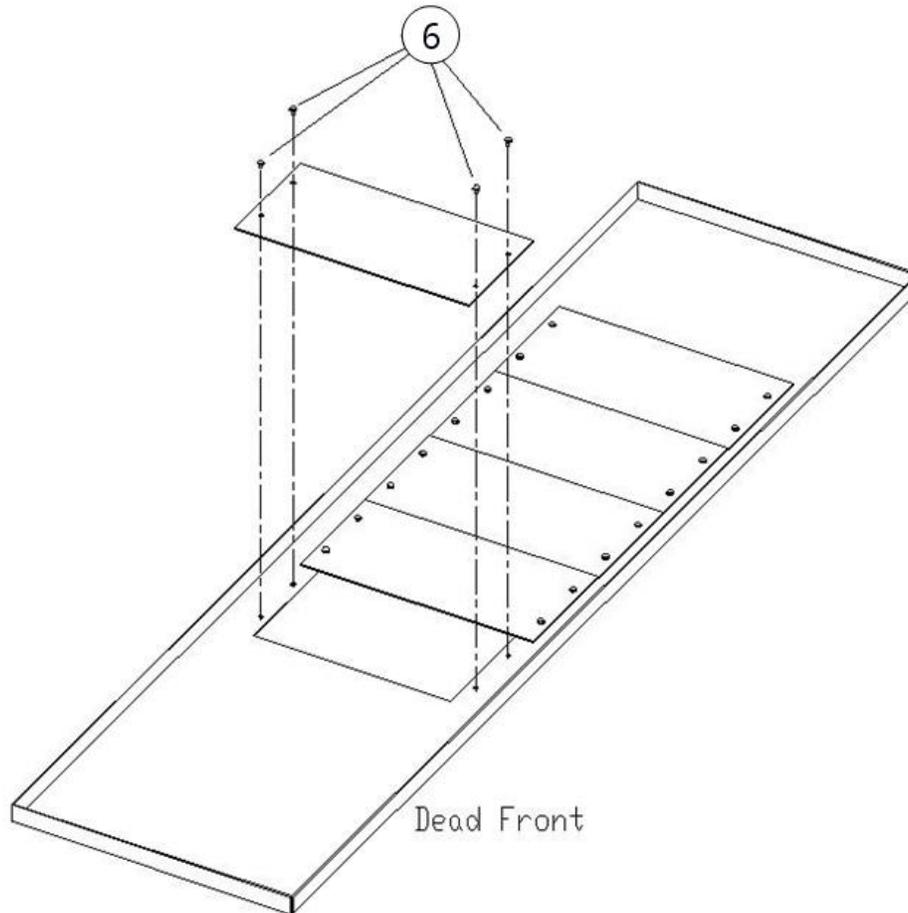

Figure 2. Removing the shield inserts from the shield for TEY breaker installation in A-Series® II Panelboards.
6. Remove the eight screws [6] of existing two filler plates from dead front where the TEY breaker needs to be installed, as illustrated in Figure 2